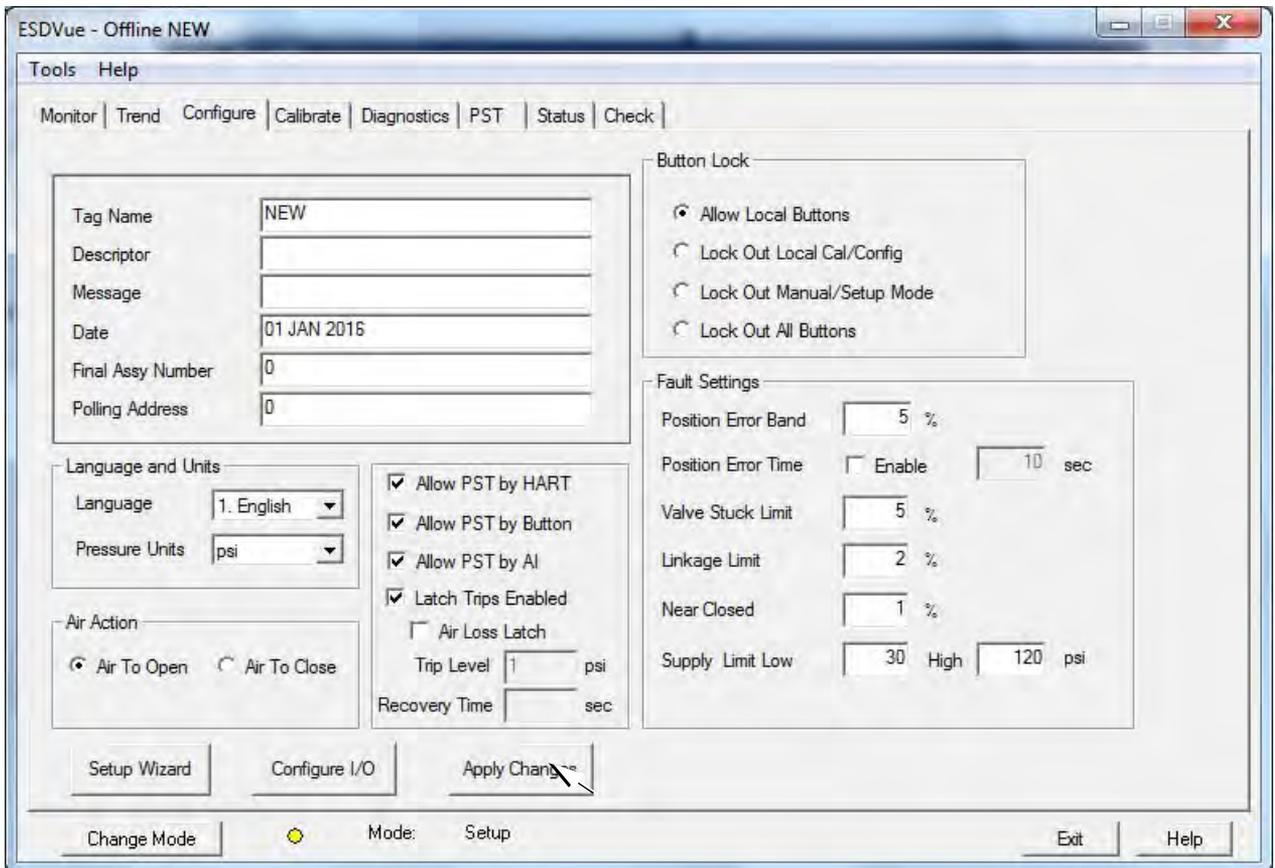

Figure 123 Applying Configuration Changes
- Click **Apply** (Figure 123) and any changes made in the Configure screen are written to the SVI II ESD.